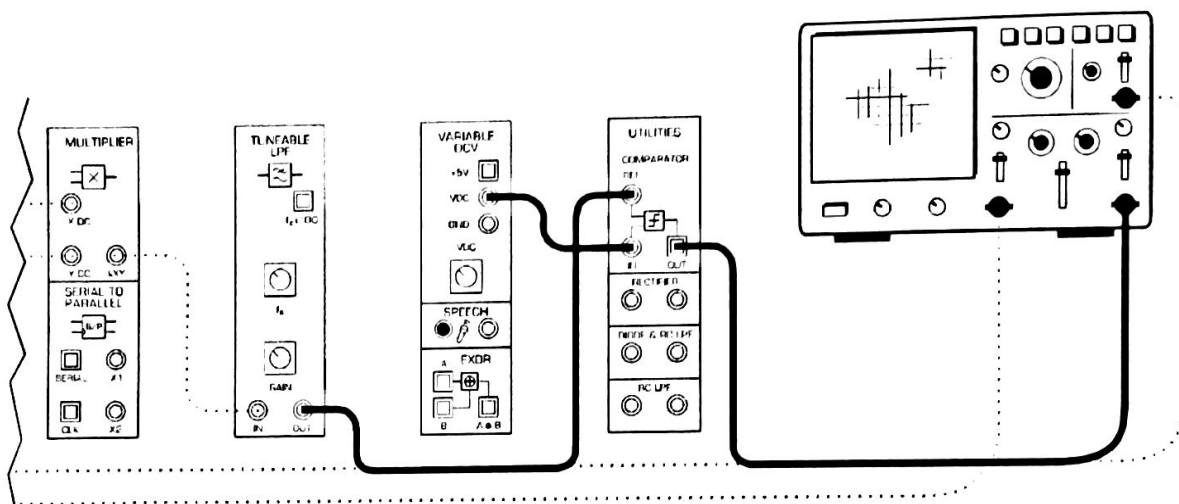

Figure 6
19. Modify the set-up as shown in Figure 6 below.